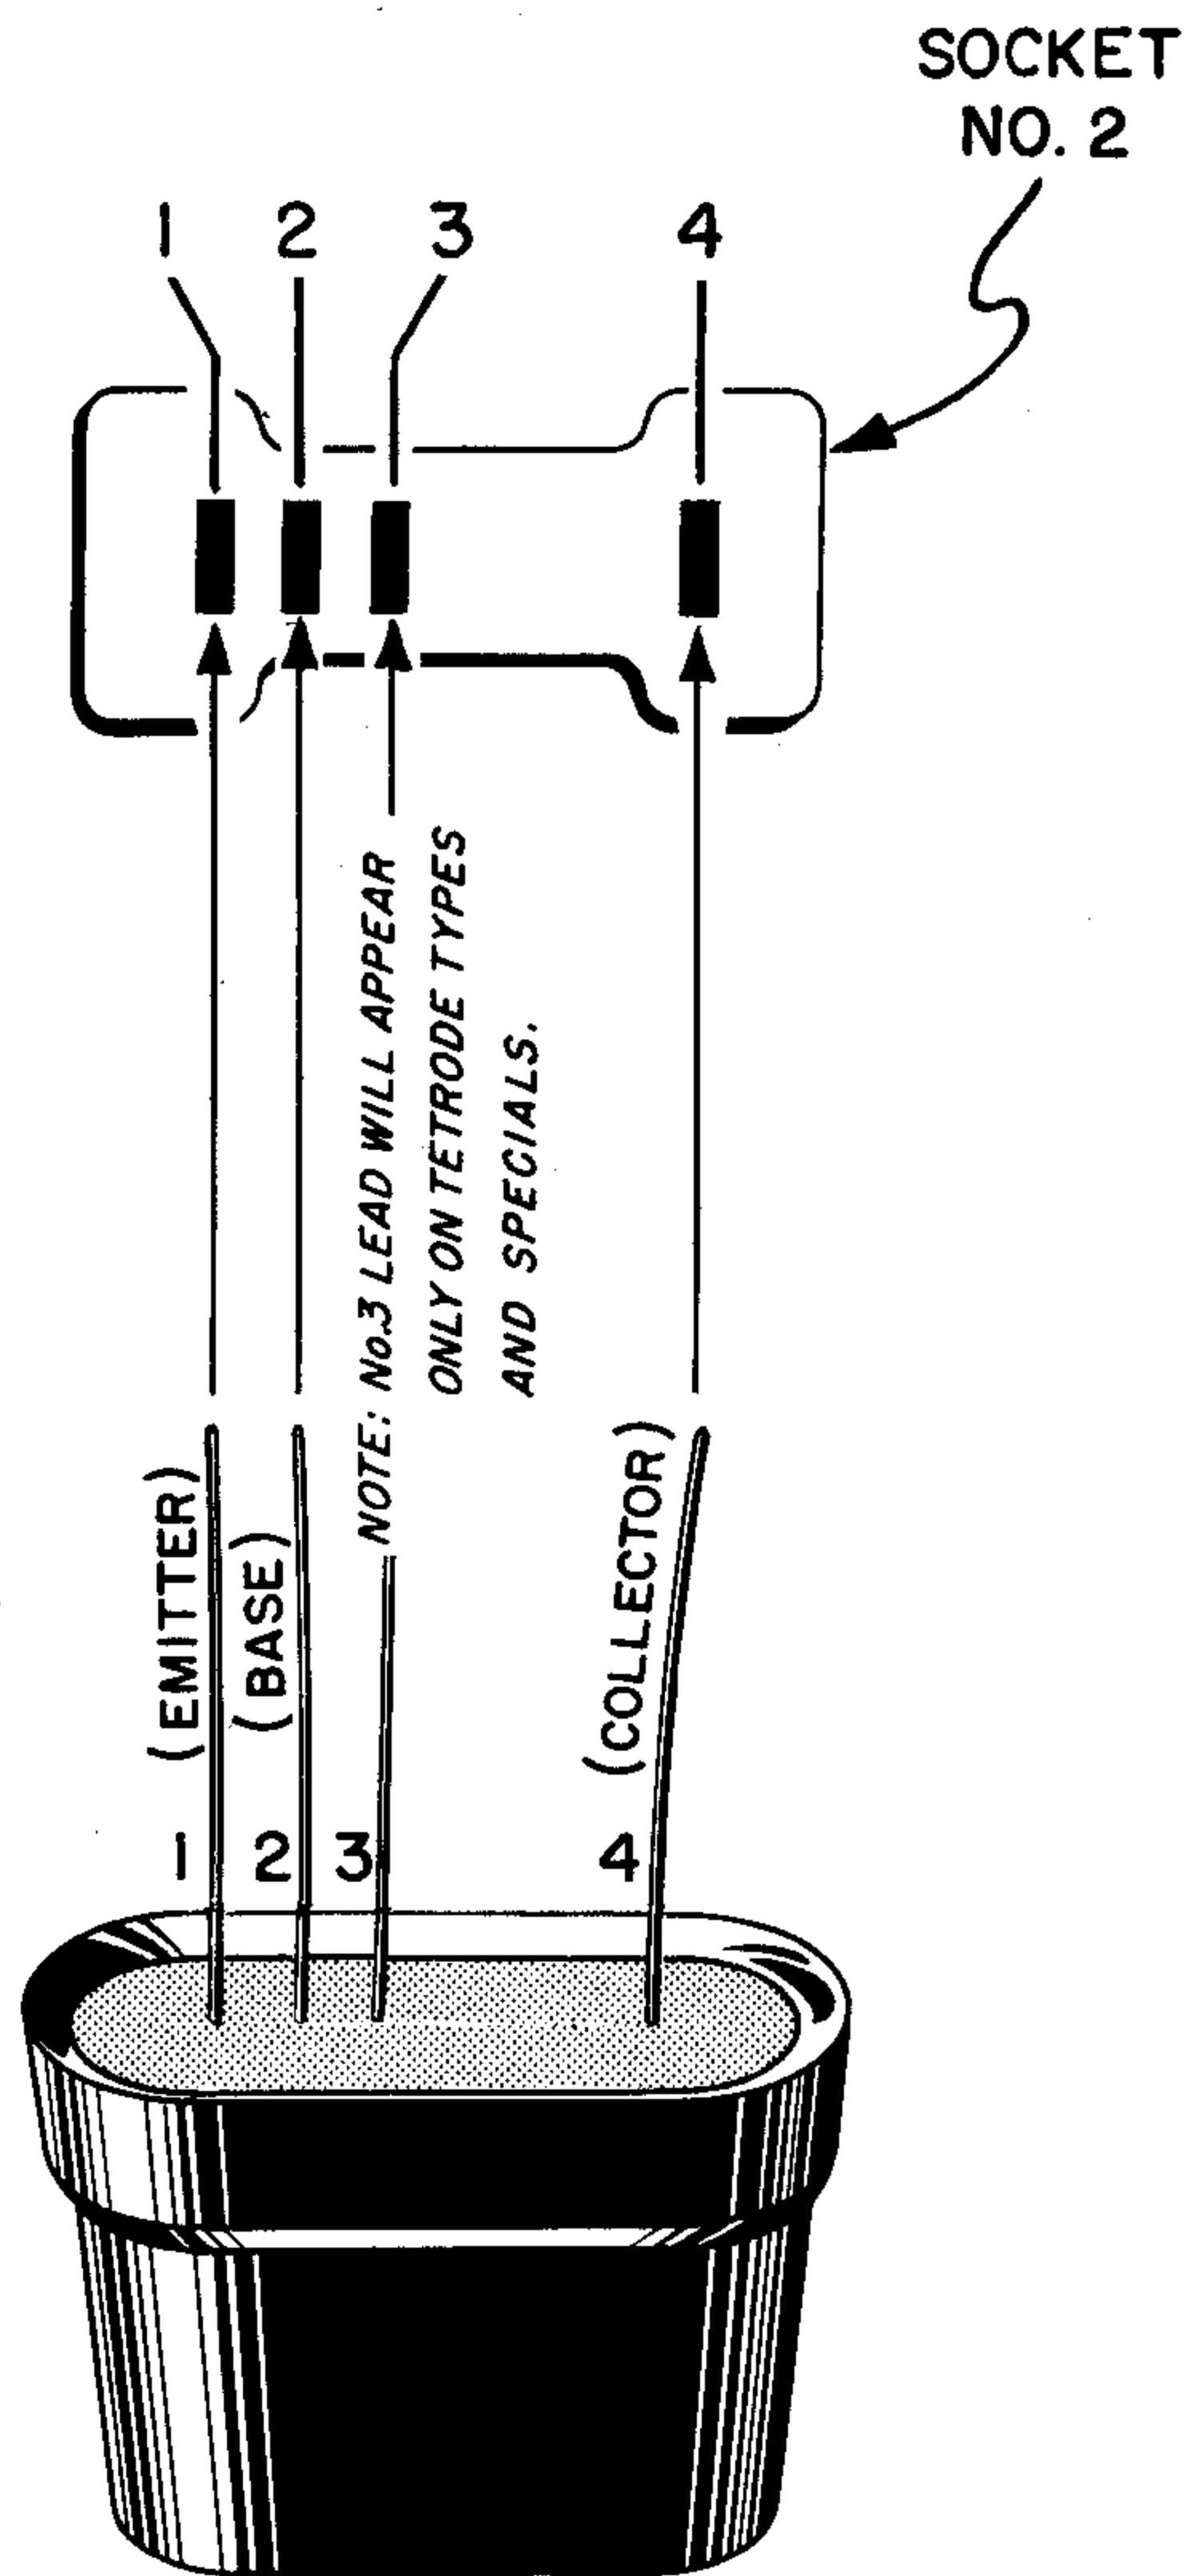

FIG. 3 PLUG-IN TYPE LOW POWER TRANSISTOR
- Step 5. Plug the transistor into the appropriate socket, or use the Adapter Cable if the transistor type cannot be accommodated by either Socket #1 or Socket #2. Note the polarization and identification of the transistor leads as shown on Page 14 or 15. If the transistor to be tested has four terminals and cannot be accommodated by Socket #2, you will use the Adapter Cable and the Alligator Lead emerging from the tool compartment. Figures 3 and 4 are examples of typical transistor connections.